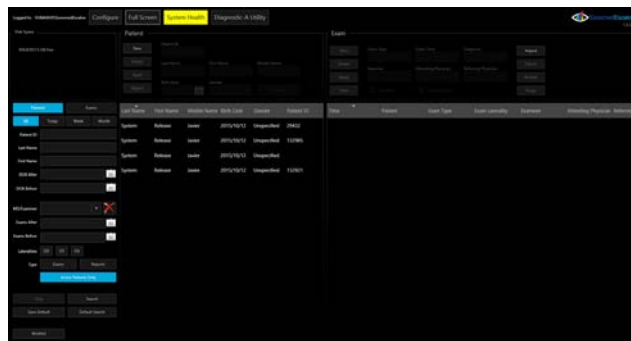

Figure 31: Patient Database Screen
- ③ **Patient Database Screen:** Upon launching the application the 'Patient Database' screen (Figure 31) will display. Here you can add a new patient or find previously performed exams.